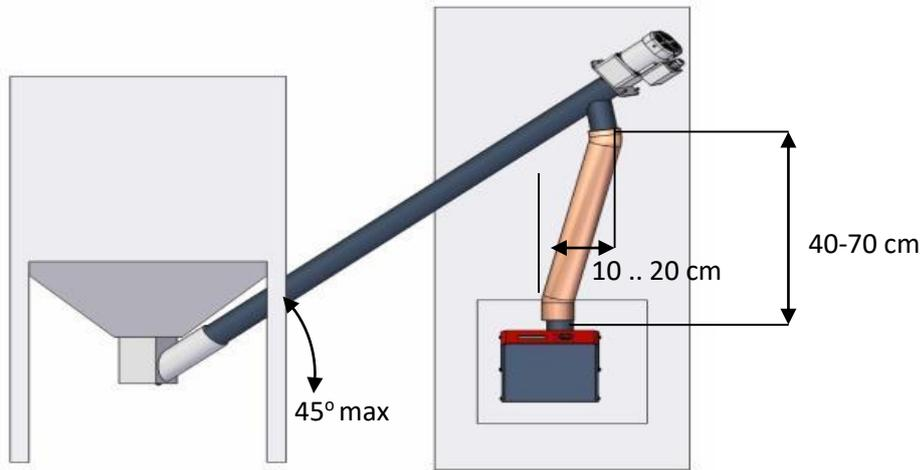

Figure 12 External auger installation
3. Container is placed in the way that rising angle of external auger doesn't exceed 45°. See Figure 12.
The external auger transports pellets from the pellet container to the burner. The burner controls the work of the external auger. The external auger is connected to the burner with a special  $\varnothing$  60mm hose. The hose is made of melting polyurethane material and acts as a safety measure against back-burning. External auger can be fixed to a ceiling or container depending on conditions at the site. Figure 12 shows correct placement for external auger.